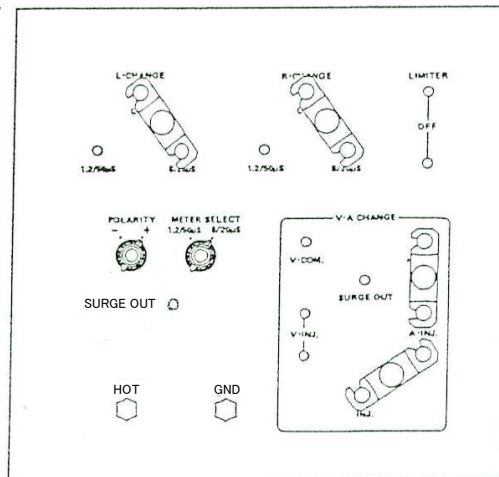

Fig. 17
1. For safety, discharge the remaining charges on Output waveform selector ⑭ and SURGE INJECTION PHASE SELECTOR ⑯ with the attached Discharge probe.
2. Make connections on the Output waveform selector ⑭ as shown in Fig. 17. Set the METER selector ⑬ to the 8/20 μ s position and select the desired surge polarity.